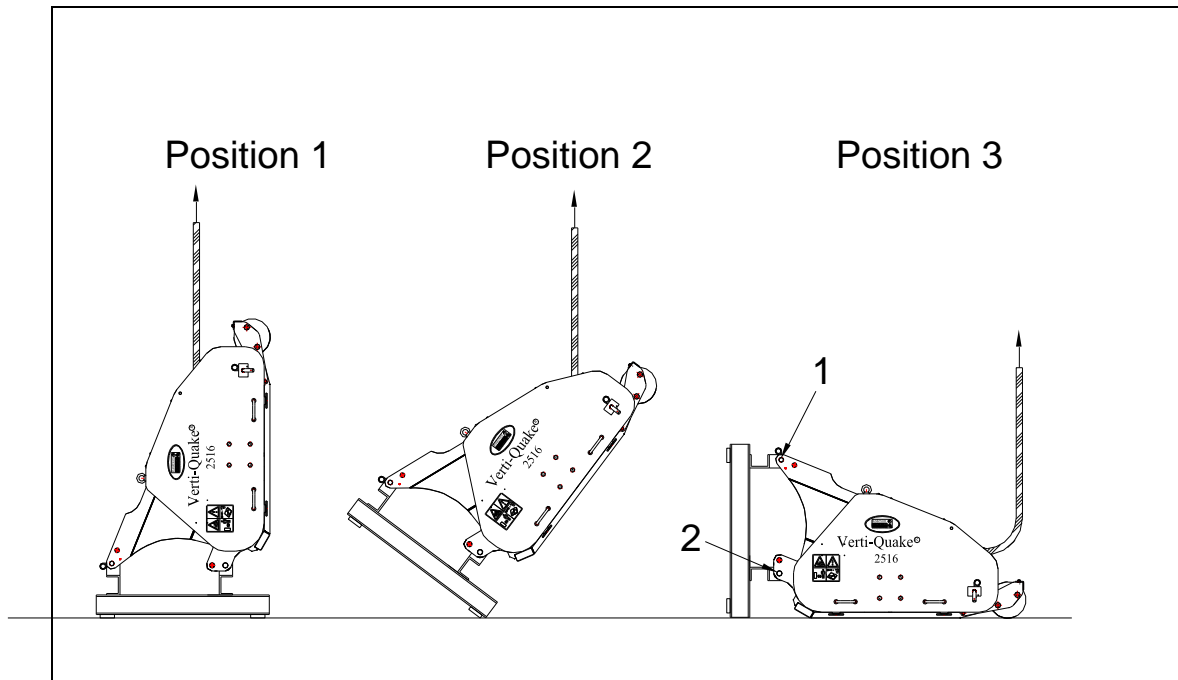

Fig. 7
The machine is located vertically on the pallet. To remove the pallet and lay the machine horizontally, carry out the following steps (fig. 7):
1. Mount a cable to the lifting points at both sides of the machine. (fig. 7 Position 1)
3. Make sure that the machine is on the point of the pallet. (fig. 7 Position 2)
4. Gently lower the machine, in a controlled way, until it fully rests upon the ground. (fig. 7 Position 3)